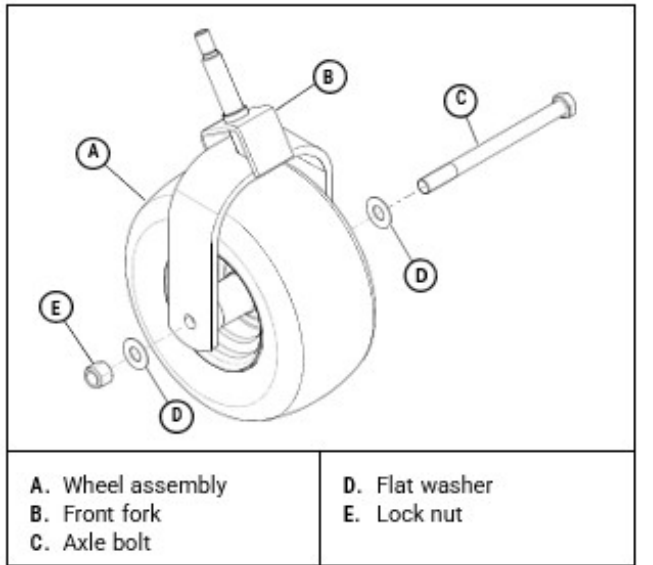

Figure 41
7. Slide the wheel assembly between the caster fork legs and assemble to the fork using the axle bolt, flat washers, and lock nut. [Figure 41]